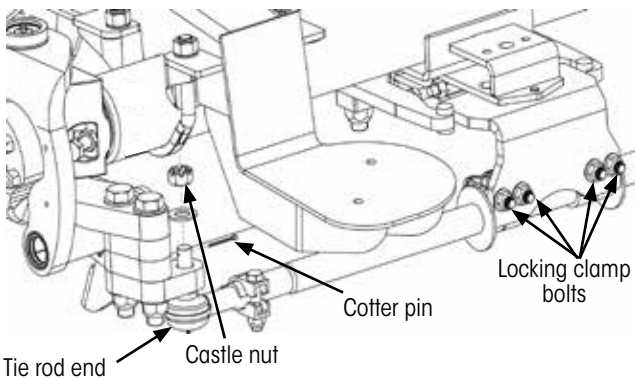

Figure 19: Aligning tie rod lock plate
2. Using wrench or socket¹, remove the four locking clamp bolts (Figure 19) holding the tie rod bracket to the tie rod. Save for reassembly.
3. Remove the cotter pin (Figure 19) from the tie rod end castle nut.